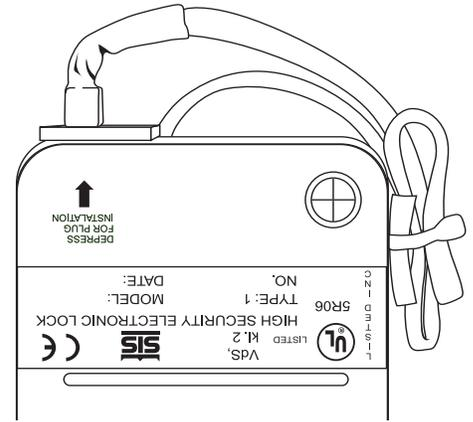

Figure 10
- 15). Secure entry cable with a wire tie, making sure that any extra cable is in a safe position and cannot be damaged by any moving parts or sharp edges, see *Figure 10*.